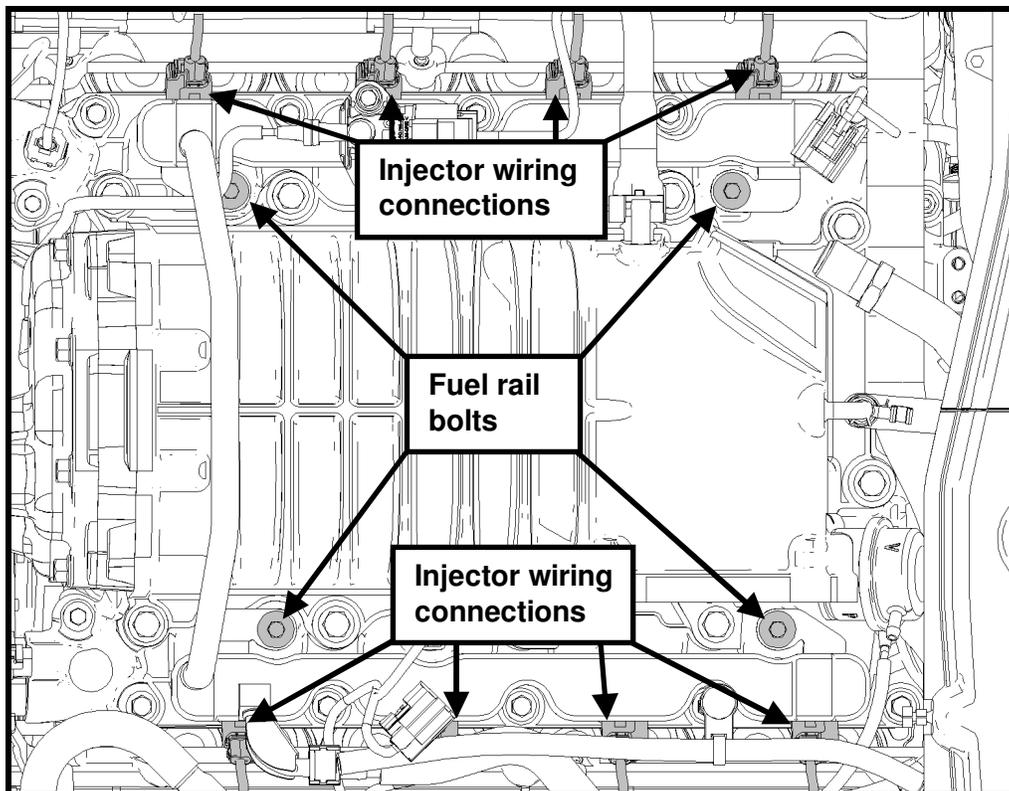

Fig. 15
**STEP 15:** Disconnect all eight fuel injector wiring connectors (See Fig. 15).
**STEP 16:** Remove the fuel rail mounting bolts (See Fig. 15). Pull up on the fuel rail and all eight injectors to gain access to the supercharger. Rotate the fuel rail around the fuel rail supply line and set aside on the driver side strut tower.